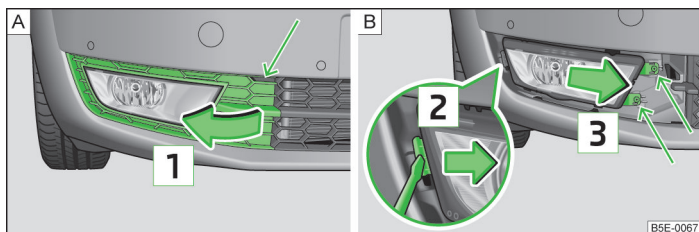

Fig. 226 Front bumper: Remove the protective grille/fog light
- Undo the protective grille in the area of the arrow » Fig. 226 - [A] using the clamp for removing the wheel trims » page 236, *Vehicle tool kit*.
- Use the screwdriver from the tool kit to unscrew the fog lamp » Fig. 226 - [B].
- Replace the fog lamp by inserting it in the opposite direction of the arrow [3] » Fig. 226 and screw tight.